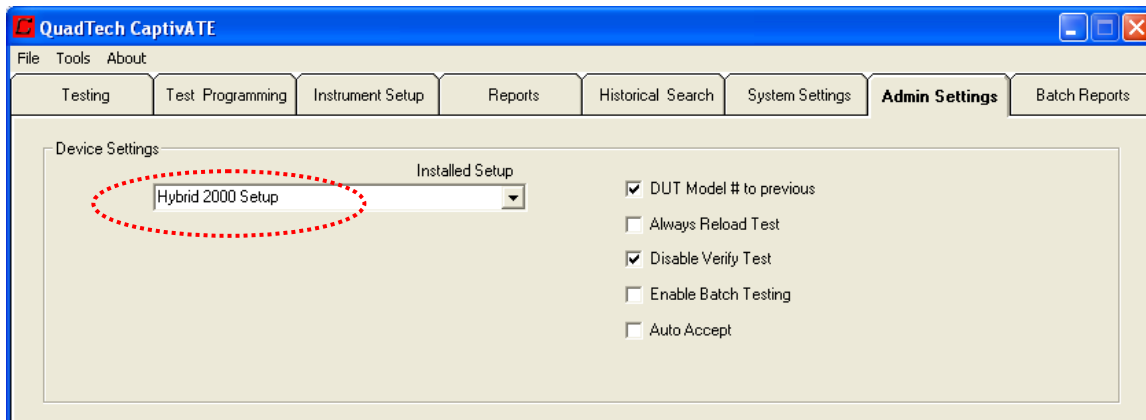

Figure 35 Install the Setup on the Admin Settings Screen
1. In the Installed Setup text box, select the setup you just created, named “Hybrid 2000 Setup,” as in Figure 35.